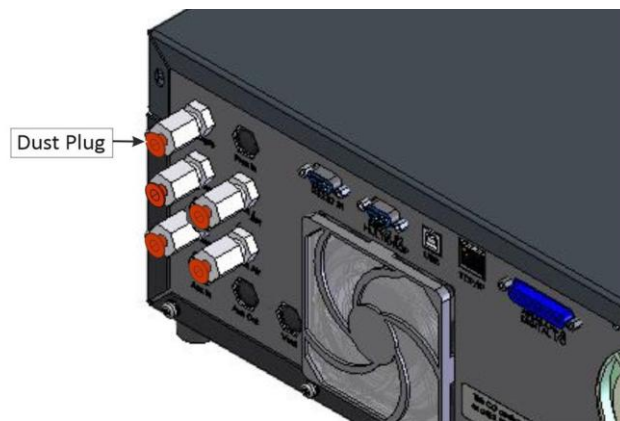

Figure 19 – Dust Plugs
1. Refer to Figure 19. Remove all the dust plugs.